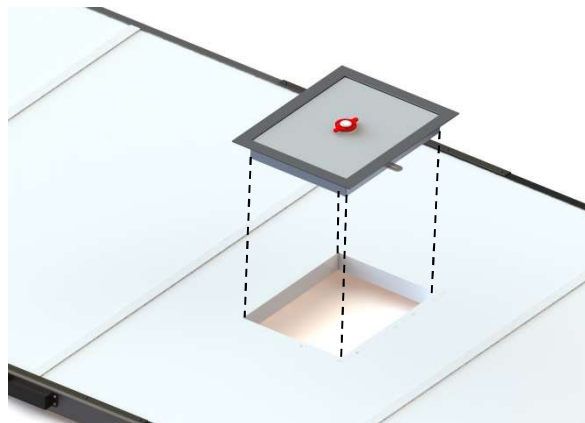

Figure 86
- 41) Turn the escape hatch handle to retract the arms and install it into the escape hatch opening of the center panel (Figure 86)